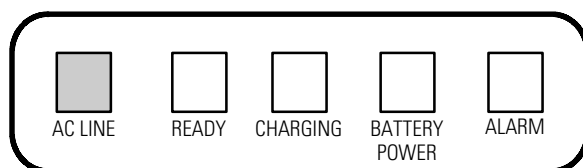

Figure 2. Front Panel Indicators
3. The AC LINE indicator illuminates (see Figure 2).